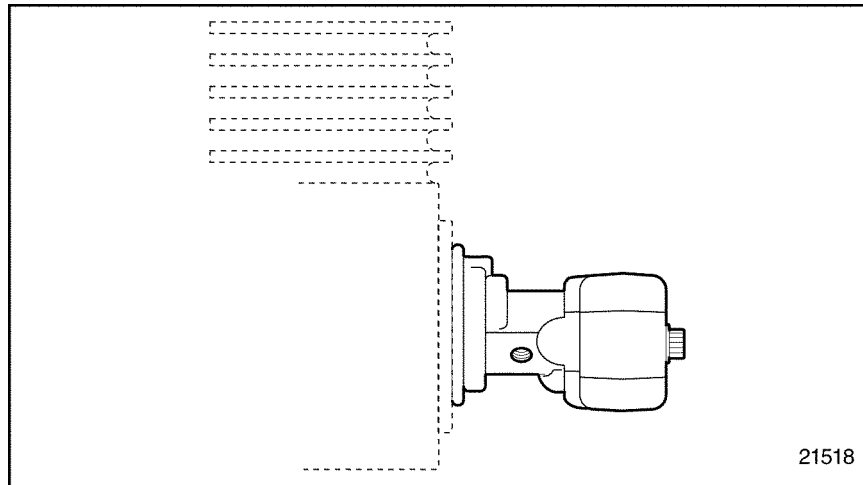

Figure 9-1 Fuel Pump Flange Drain Hole Location
1. Insert a piece of wire through the fuel pump flange drain hole; see Figure 9-1.